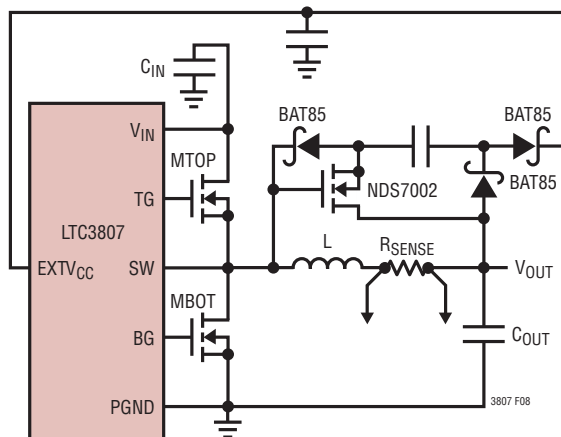

Figure 8. Capacitive Charge Pump for EXT_{VCC}
4. **EXTV_{CC} Connected to an Output-Derived Boost Network.** For 3.3V and other low voltage regulators, efficiency gains can still be realized by connecting EXTV_{CC} to an output-derived voltage that has been boosted to greater than 4.7V. This can be done with the capacitive charge pump shown in Figure 8. Ensure that $\text{EXTV}_{\text{CC}} < V_{\text{IN}}$.